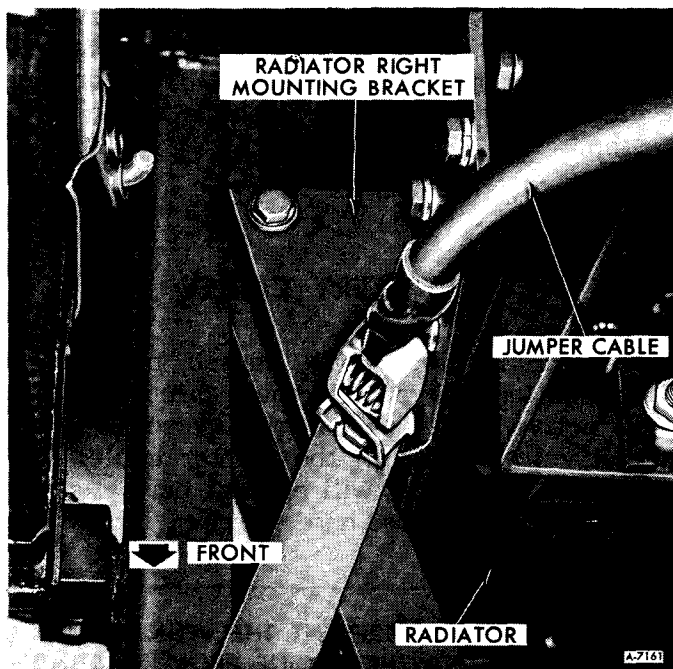

Figure 4—Connecting Jumper Cable To Radiator Right Mounting Bracket (Passenger Side)
- Lastly, connect the other end of the second jumper cable to the radiator right mounting bracket (passenger side) in THIS vehicle (figure 4). Do not connect the cable to pulleys, fans, or other parts that move. Beware of touching hot manifolds which can cause severe burns.